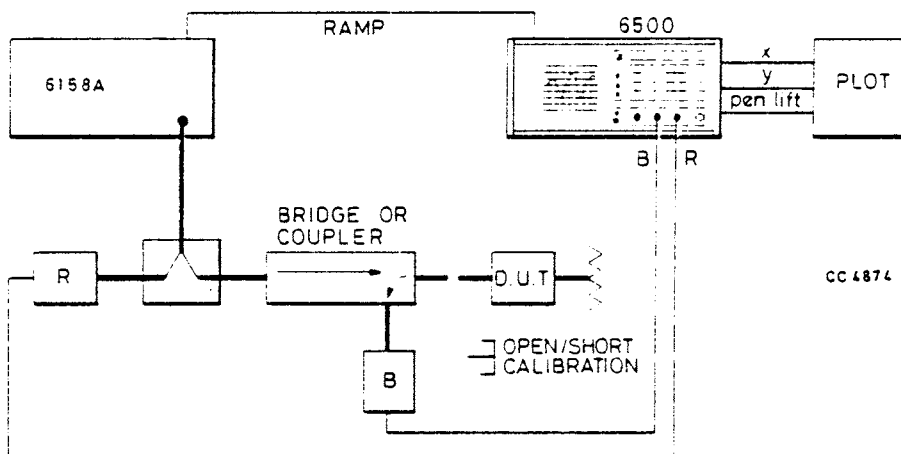

Fig. 5 VSWR measurement, interconnecting diagram
17. Connect the test equipment as shown in Fig. 5 and switch 6158A r.f. level off, and mode to SWEEP. Carry out the AUTO ZERO function on the 6500, if this is satisfactory complete the following :-